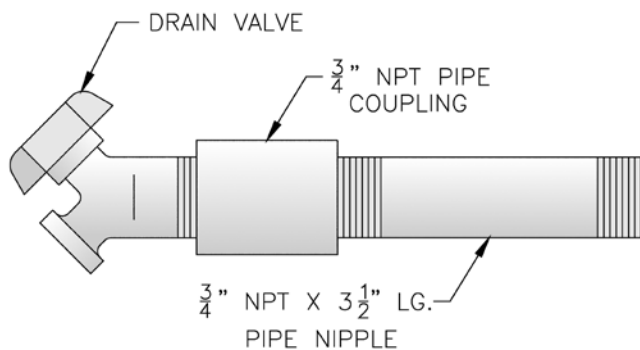

Figure 19: Drain Piping Installation
D. Install Drain Valve in rear of Left End Section, Tapping “G”. See Figure 19. Components are located in Water Trim Carton.